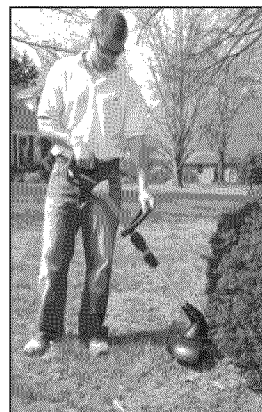

Figure 20 - Holding trimmer/edger
2. Hold trimmer/edger using both front and rear handles (See Figure 20).